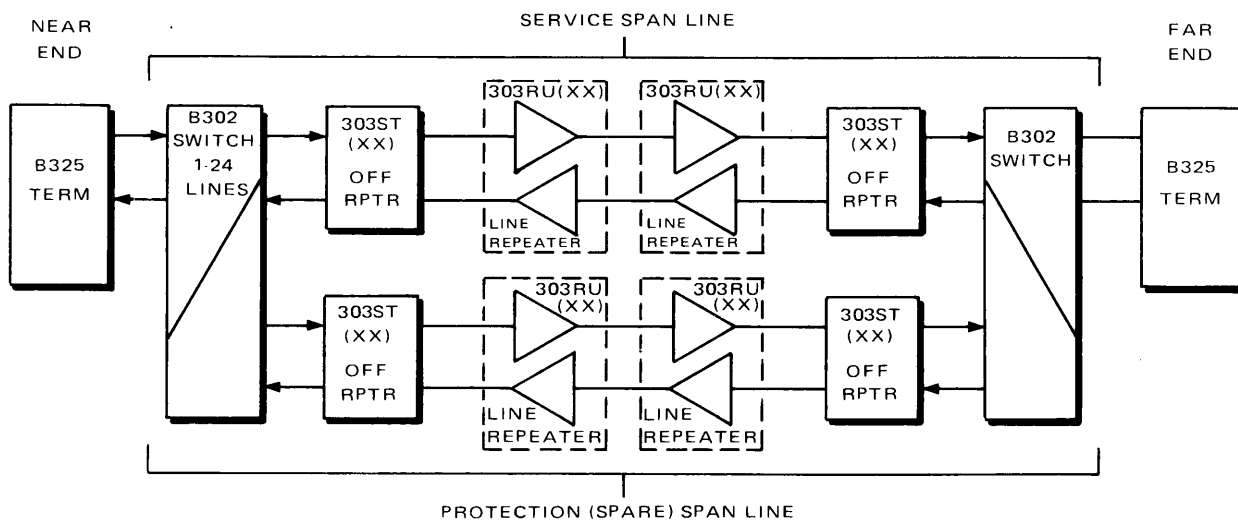

Fig. 2—B325 Interface with Lynch B303 T-1 Span Line and B302 ESLS Switch
2.02 Fig. 2 shows two B325 terminals operating end-to-end, via a span line that is equipped with Lynch B303 T-1 span line equipment and is protected with a Lynch B302 electronic span line switch (ESLS). A Lynch 303MA01 span terminating shelf provides office termination for the repeated T-1 outside line.